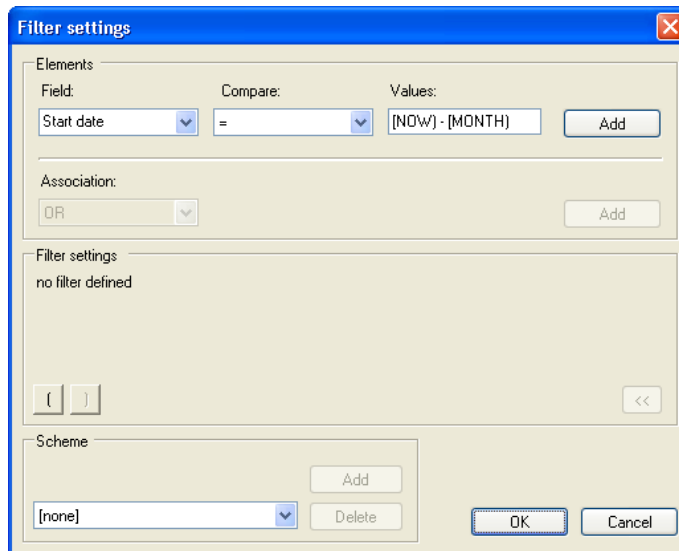

Fig. 35: **Filter settings** window with simple, freely configurable filter
- Close the **Filter settings** window (fig. 35) with **OK**. The defined filter(s) will then be used. The **Show measurement data** window is updated and shows only the relevant (i. e., filtered) measurement data.